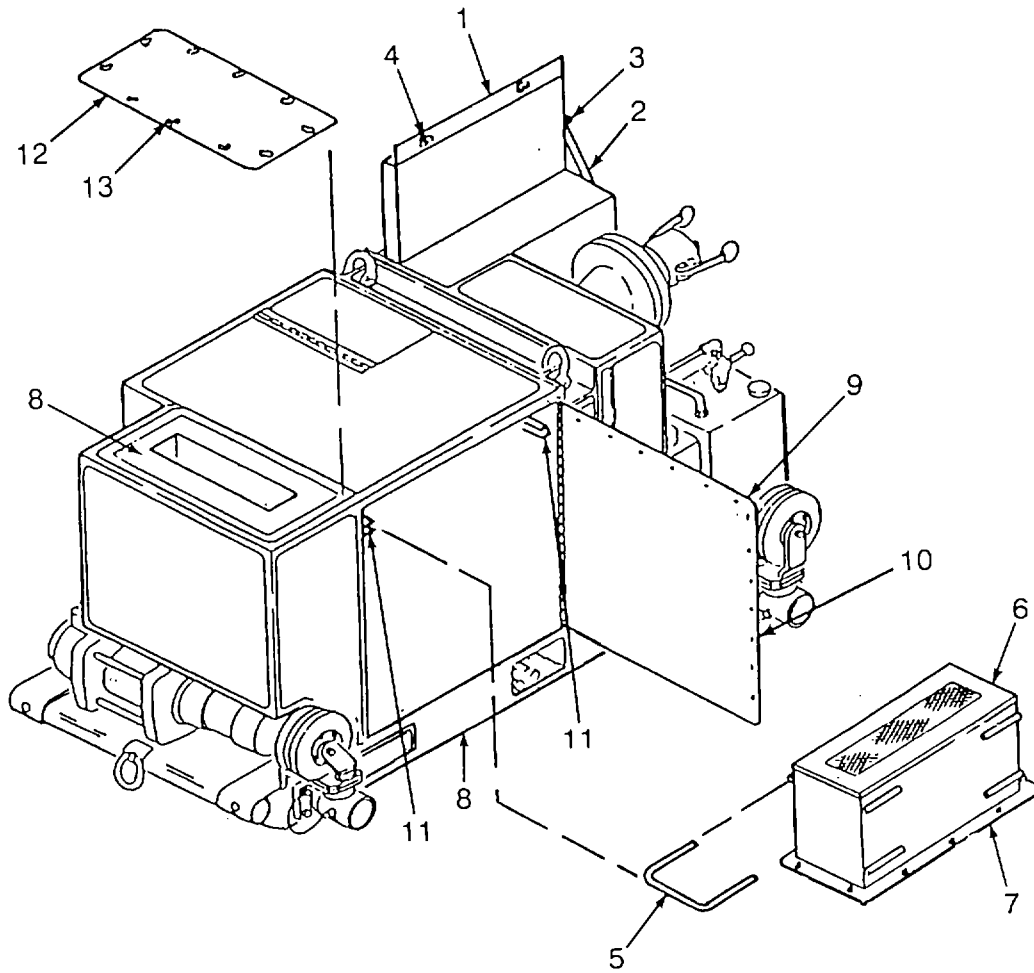

Figure 2-10. Preparation for Movement (Packing Up)
a. The following prepares the 200/600 GPM Pump for movement. Refer to Figure 2-10.
- (1) Shutdown 200/600 GPM Pump. Refer to paragraph 2-7 shutdown.
- (2) Disconnect external fuel supply. Refer to applicable system TM.
- (3) Disconnect 200/600 GPM fuel pump hoses. Refer to applicable system TM.
- (4) Remove ground rod. Refer to applicable systems TM.
- (5) On the control panel door (1). Remove door latch(2) from mounting lug (3).
- (6) Close control panel door (1) and lock two turn-lock fasteners (4).